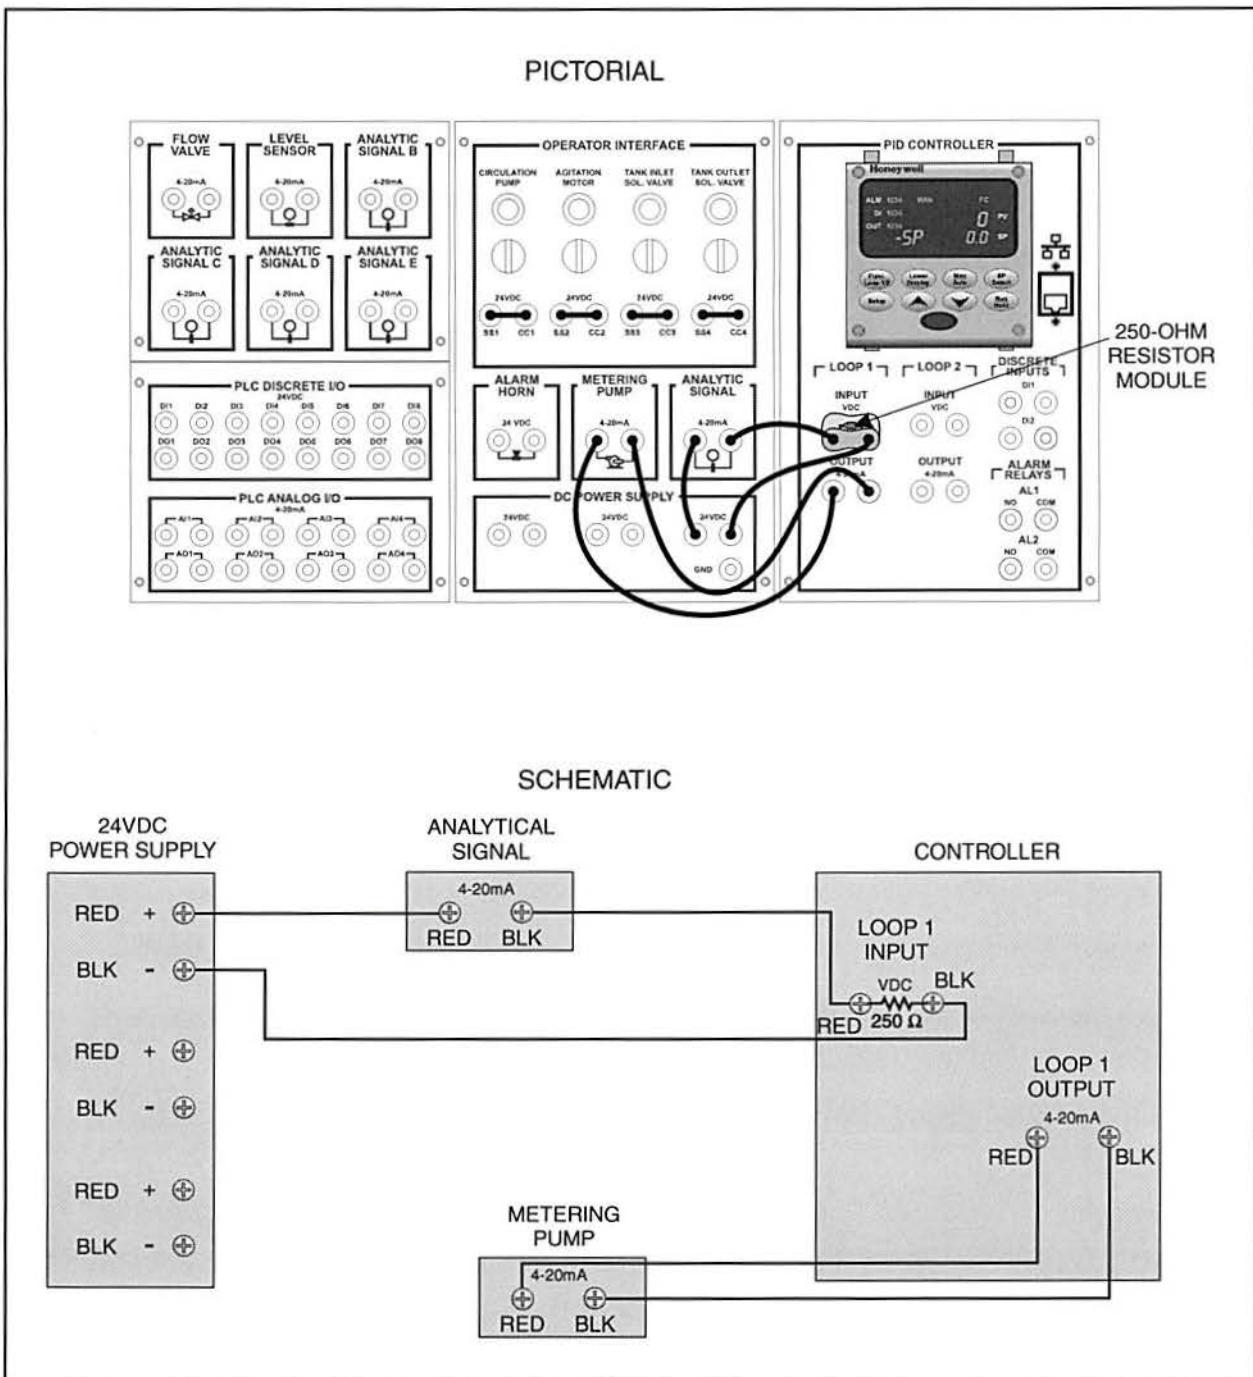

Figure 69. Continuous pH Control Circuit
- 2. Make sure the circuit shown in figure 69 is still connected. If not, connect it now.